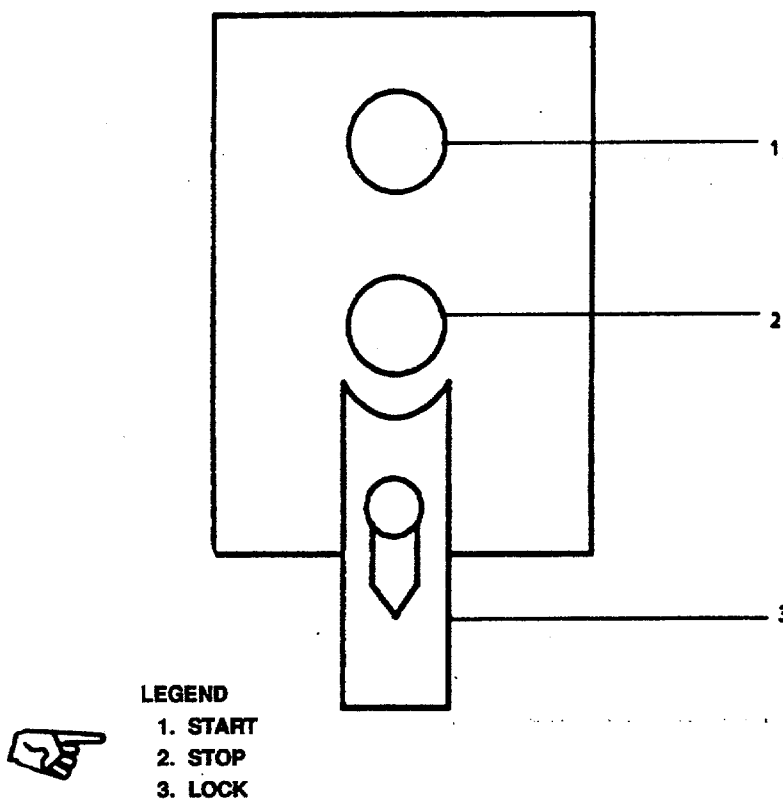

FIGURE 2-170. Fuel Oil Transfer Switch.
- (10) Operate No. 1 XFR PUMP by pressing START Push Button (1, FIGURE 2-170), and observe tank level indicator (FIGURE 2-168) until desired amount of fuel has been transferred. Press STOP pushbutton (2, FIGURE 2-170).
- (11) Close suction valves of tank that fuel was pumped from.
- (12) Close supply valve of tank that fuel was pumped to.
- (14) Open FO-44, DISCH-NO. 2 XFR PUMP (3).
- (15) Follow steps 2-18b(3) through 2-18b(9Xk).
- (16) Operate NO. 2 XFR PUMP by pressing START Push Button (1, FIGURE 2-170), and observe tank level indicator (FIGURE 2-168), until desired amount of fuel has been transferred. Press STOP Push Button (2, FIGURE 2-170).
- (17) Close suction valves of tank that fuel was pumped from.
- (9) Open FO-49, PUMP SUCT PRESS GAGE (8).
- (10) Align tank to be drained as follows:
- (i) Operate NO. 1 XFR PUMP and NO. 2 XFR PUMP by pressing START Push Button (1, FIGURE 2-170) on TYPE -I Motor Switches, and observe tank level indicator until fuel has been removed. Press STOP Push Button (2).
(11) Close all valves in Fuel Oil Filter, Transfer, and Supply Piping System.
(12) Disconnect fueling hose from deck connection.